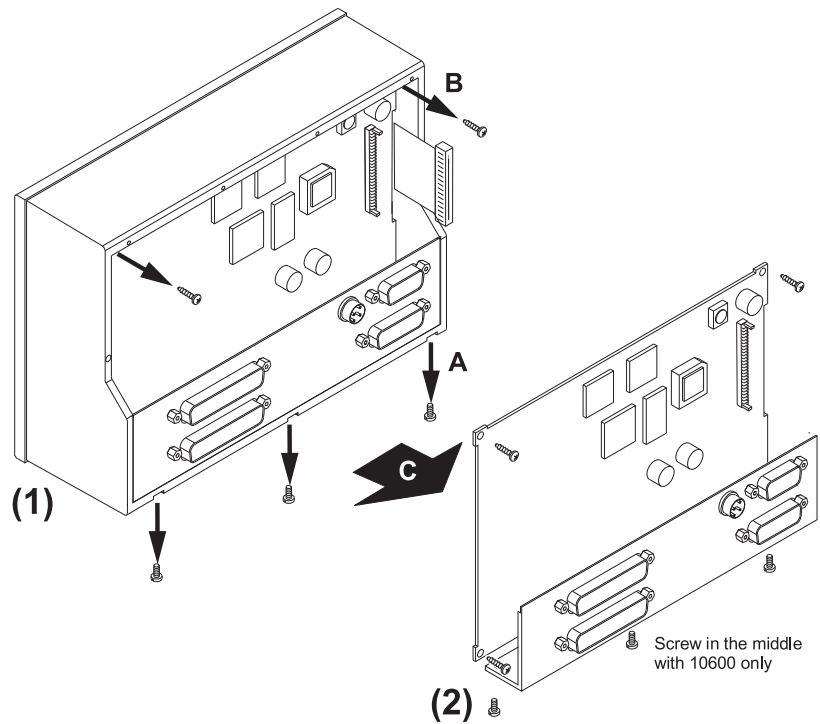

Fig. E 7-4: Unscrew and removal of connector panel and main pcb
3. Remove the three (10600) resp. two (10600-PLUS) screws at the bottom of the SurroundMonitor (A) which hold the connector panel in place. Take out the three screws (B) fixing the main pcb. Carefully remove connector panel and main pcb (C) and store them at a ESD protected place. (Fig. E 7-4)